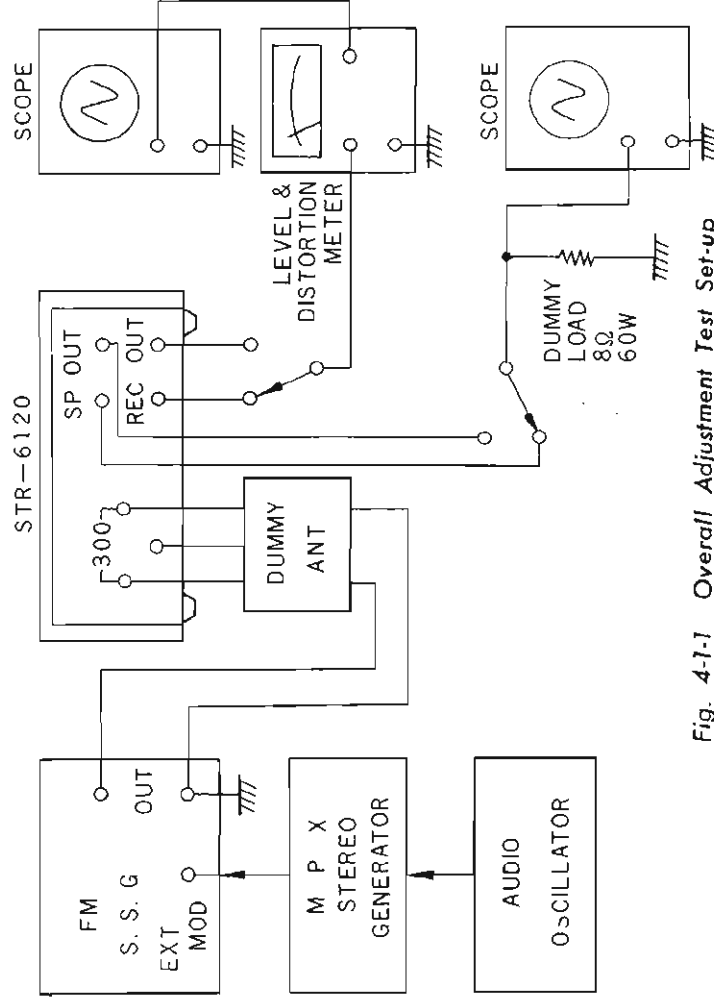

Fig. 4-1-1 Overall Adjustment Test Set-up
- (1) Connect the equipment as shown in Fig. 4-1-1.
- (2) Set the FM Signal Generator Frequency to 98 MHz, 400Hz, 100% modulation. Output level: 60 dB/ μ
- (3) Tune the receiver to 98 MHz and adjust the bottom core of IFT₃₀₁, the Discriminator Transformer, slightly for minimum distortion.
- (1) Connect the equipment as shown in Fig. 4-1-1; set the FM signal generator as follows:
- (a) With the equipment connected as shown in Fig. 4-1-1, set the MPX stereo generator controls as follows:
- (1) With the equipment connected as shown in Fig. 4-1-1, set the signal generator's controls
(a) With the equipment connected as shown in Fig. 4-1-1, set the FM signal generator as follows:
- (a) With the equipment connected as shown in Fig. 4-1-1, set the FM signal generator and receiver controls as follows:
- (1) With the equipment connected as shown in Fig. 4-1-1, set the FM signal generator and receiver's controls as follows:
1. With the equipment connected as shown in Fig. 4-1-1 and the power switch is in the ON position, feed a 1 kHz 0 dB signal to the TAPE input terminal through the attenuator.